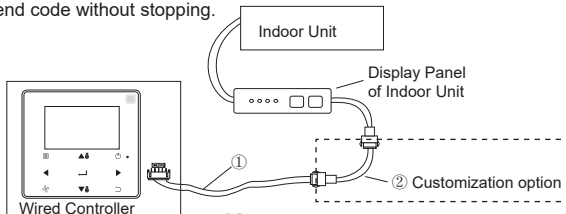

Fig.12
2-5-6 For the non 2nd generation IDUs, the wired controller needs to be interconnected to the 5-core terminal on the IDU display panel through the CN2 port. See Fig. 12. The following standard connection cable set ① as configured for the following wired controller accessory.